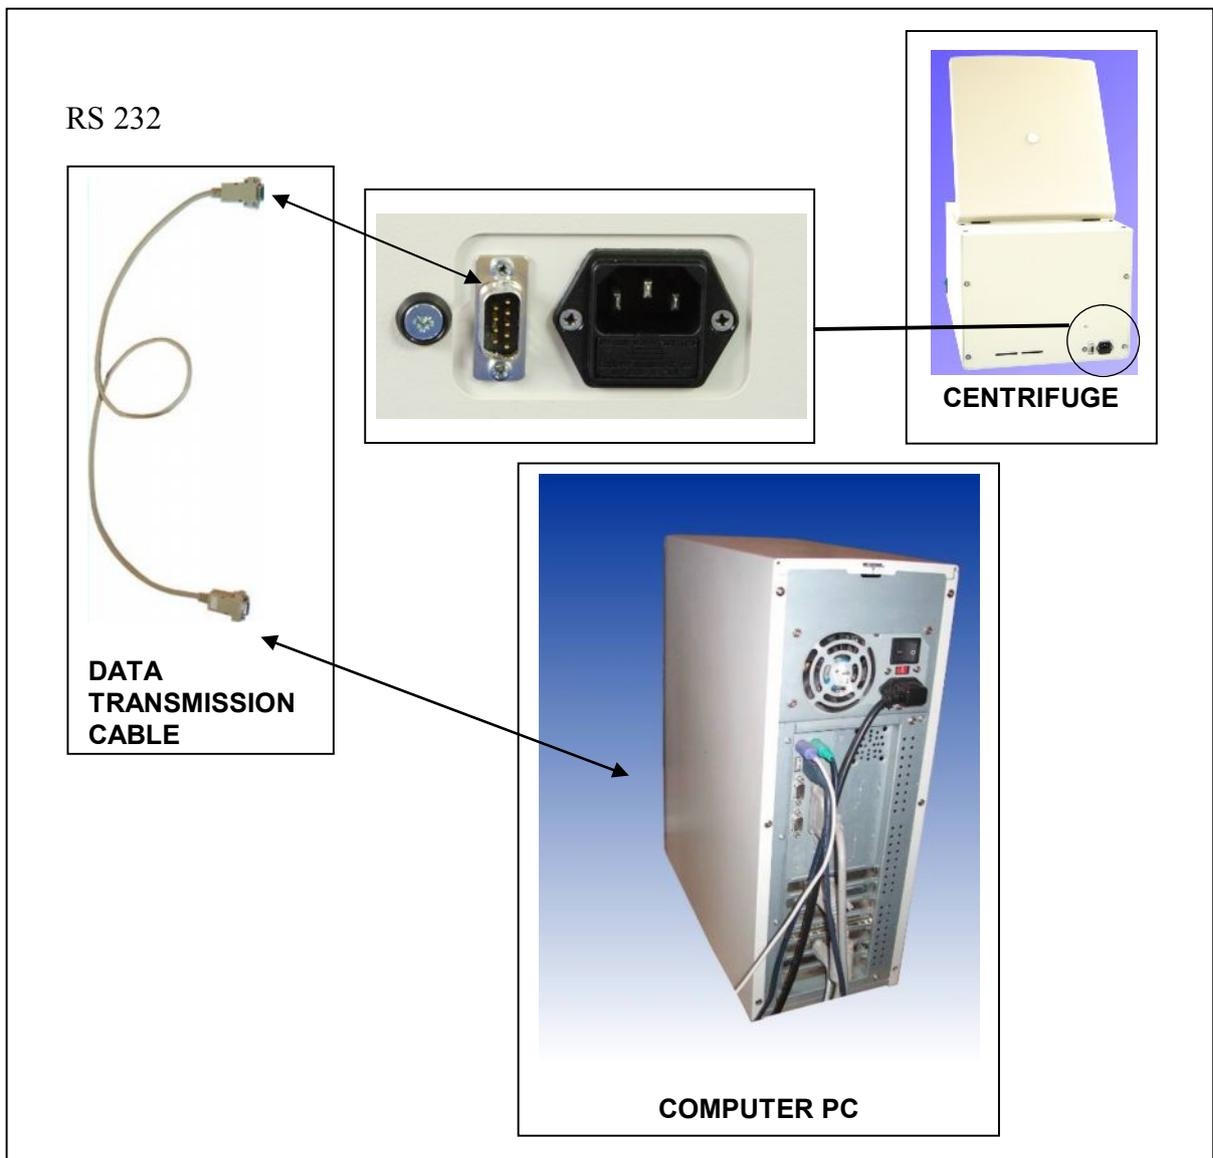

Fig.3. Connecting computer to the centrifuge.
- Connect the centrifuge directly to the computer serial interface RS 232 with the cable (RS 232) provided as accessory of Assembly for recording of working parameters through RS 232 port (see Fig. 3.). Socket is situated at the back of the centrifuge.